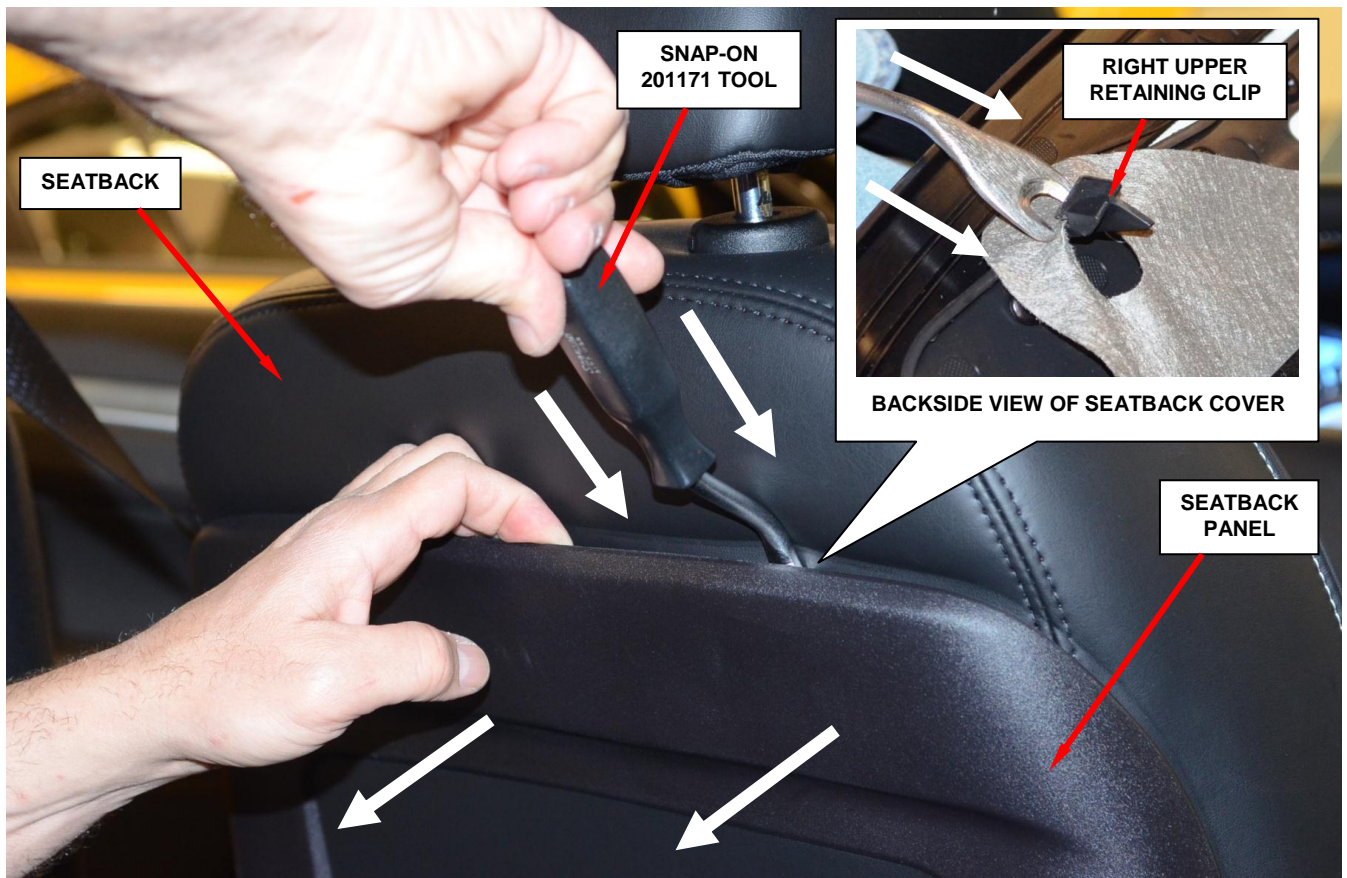

Figure 2 – Disengage the Two Upper Retaining Clips
- a. Insert a Snap-on 201171 tool, or equivalent, at the top of the seatback panel and push down on the upper retaining clips to disengage the two clips while pulling outward slightly on the top of the seatback panel (Figure 2).